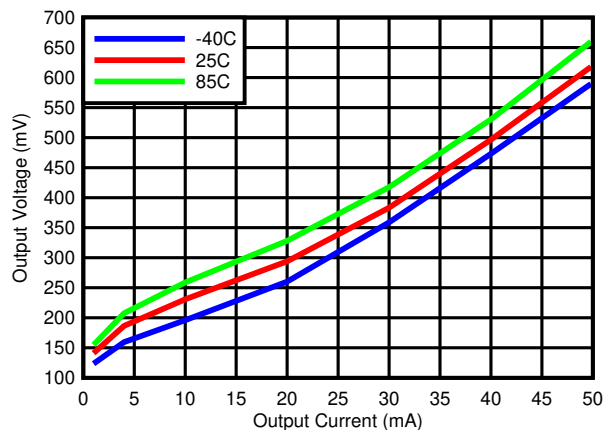
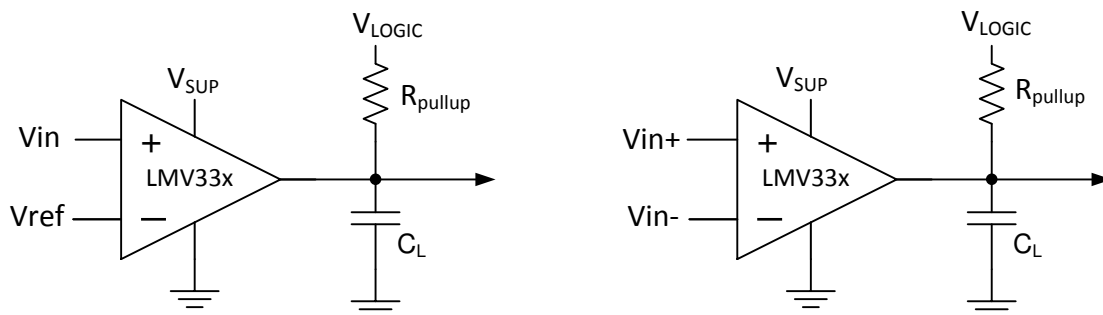

图 6-3. Output Voltage vs Output Current
图 8-1. Typical Application Schematic
The output consists of an open drain NPN (pull-down or low side) transistor. The output NPN will sink current when the positive input voltage is higher than the negative input voltage and the offset voltage. The V_{OL} is resistive and will scale with the output current. Please see Figure 6-3 for V_{OL} values with respect to the output current.
Output current is determined by the pull-up resistance (R_{pullup}) and Vlogic voltage, refer to 图 8-1. The output current will produce a output low voltage (V_{OL}) from the comparator. In which V_{OL} is proportional to the output current. Use 图 6-3 to determine V_{OL} based on the output current.
- R_{CE} can be determine by taking the slope of 图 6-3 in it's linear region at the desired temperature, or by dividing the V_{OL} by I_{out}